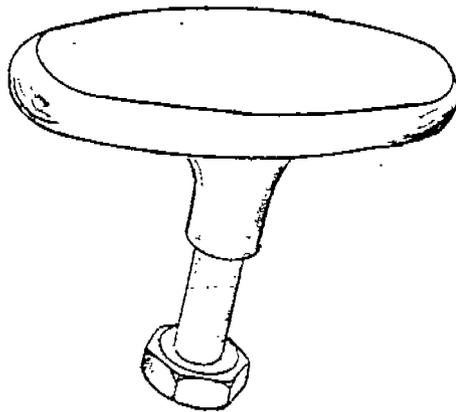

Figure 18. Air Shut-Off Valve Handle
- (WEEKLY) 37. () Without refilling the exhaust conditioner, start the engine, operate it at high idle, and engage the emergency intake air shut-off valve. The valve handle is shown in Figure 18. The air shut-off valve closes immediately and shuts down the engine. To accomplish this test, it is necessary to have a helper keep the float in the exhaust conditioner in its upper most position (with exhaust conditioner cover oil) for the endurance of the test.